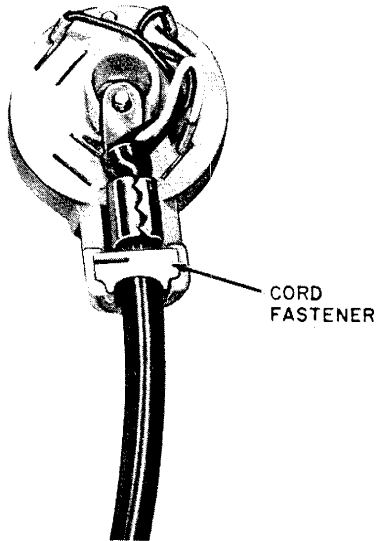

Fig. 9—Current Model D3BU Cord Connected to Current Model 505A Plug
- (1) Position flat eyelet stay band in the cord channel so that the screw hole is over the screw hole in the center of the cord tip guide (see Fig. 9).
- (2) Fit cord fastener into groove in the cord channel and press until it snaps into position.
- (3) Connect the mounting cord spade tips in the socket-type terminals.
- (4) Insert screw through hole in block and stay band.
- (5) Dress conductors so they will not obstruct the center of the cord tip guide.
- (6) Position cap assembly on cord tip guide and block; check that no cord leads are pinched and tighten screw.